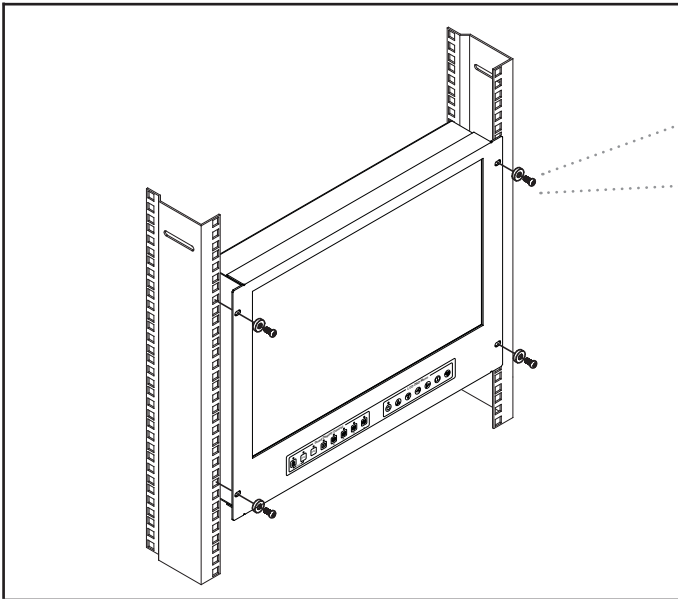

Figure 1.
■ Install each screws shown in **Figure 1**.